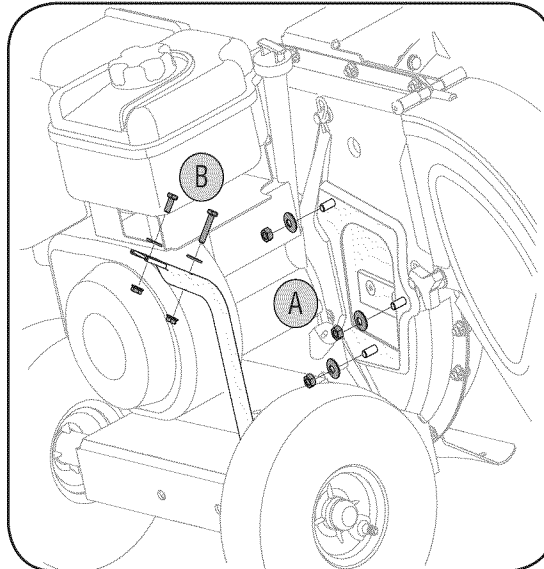

Figure 3-5
5. a. Remove the three cupped washers and hex nuts from weld studs around the opening on the side of the impeller housing. See Figure 3-5.